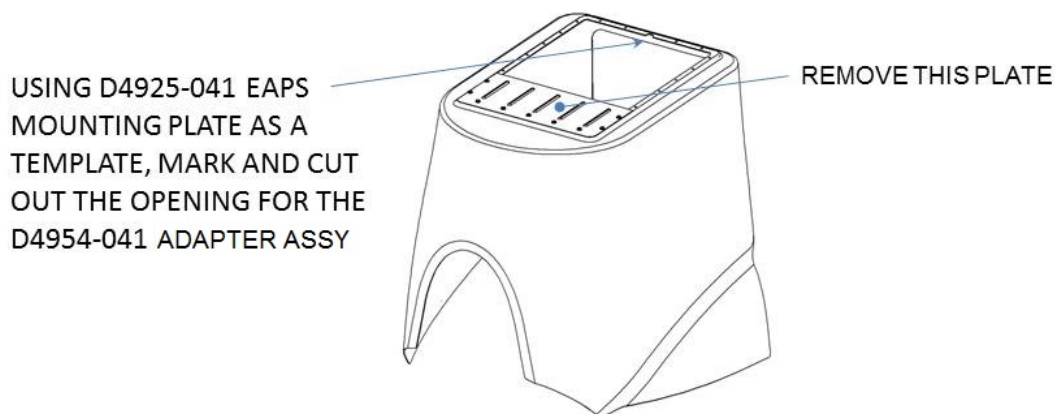

Figure 2: Cowl Plate Removal
- 3.1.4.1 For older model aircraft remove the aluminum plate installed on the cowling (see Figure 2). Using the D4925-041 EAPS Mounting Plate Assembly as a template, mark and cut out the opening for the D4954-041 Adapter Assy. For Aluminum cowlings touch up finish per the aircraft maintenance manual.